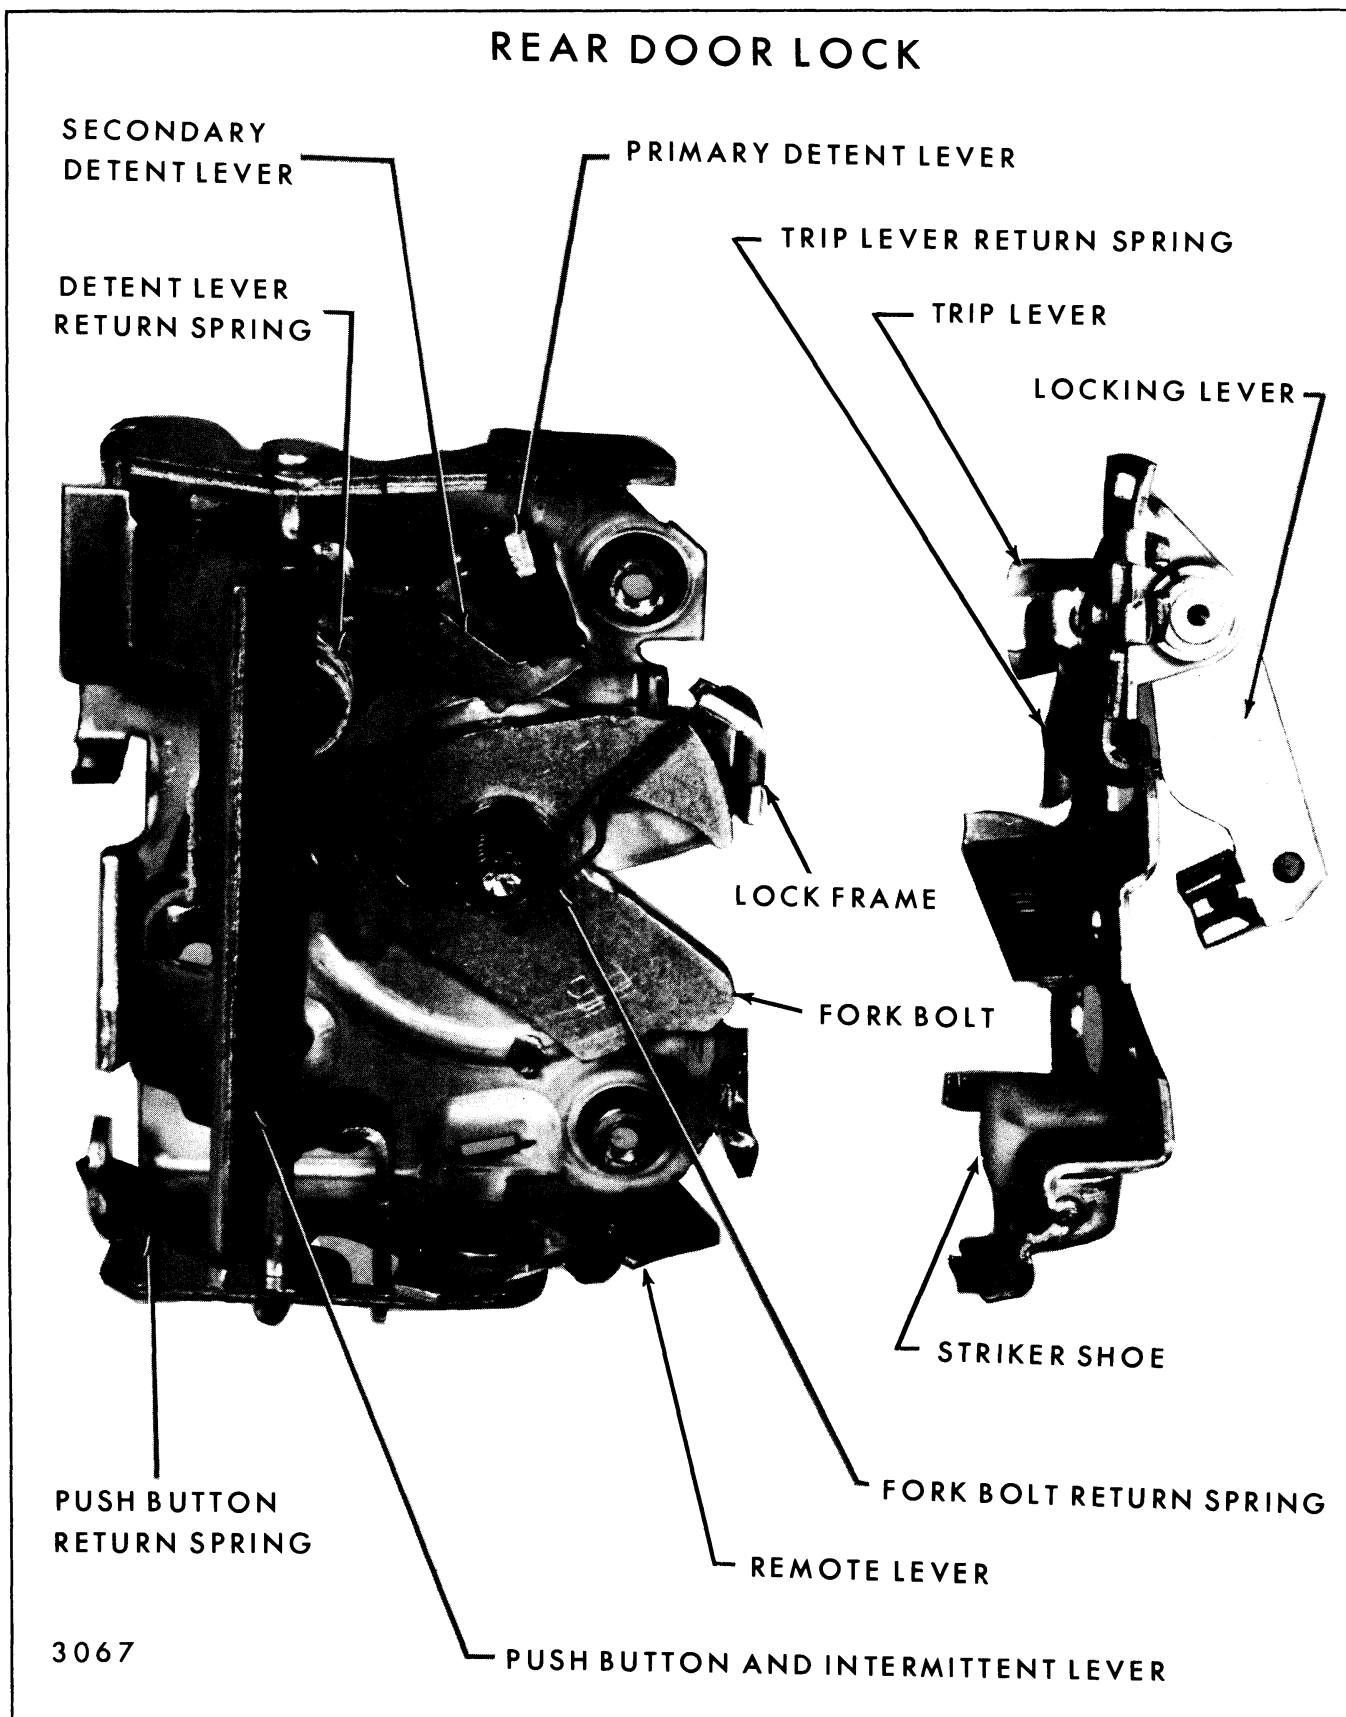

Fig. 5-122-Rear Door Lock Assembly - "X" Styles
**WARNING: FIGURES 5-122 AND 5-123 DEPICTS TYPICAL "X" AND "A, B AND C" STYLES, RESPECTIVELY, REAR DOOR LOCK ASSEMBLIES WHICH CAN BE USED FOR IDENTIFYING LOCKING PROBLEMS. DO NOT ATTEMPT REPAIRS TO CORRECT LOCK DISCREPANCIES. MAKE CORRECTIONS THROUGH REPLACEMENT OF LOCK ASSEMBLY.**